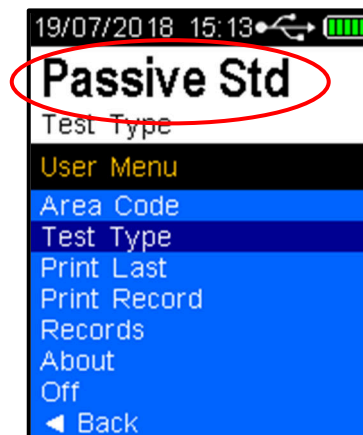

Figure 15 - Passive Standard Displayed
- Press the Test key until *Passive Std* is displayed (Refer to Figure 15).